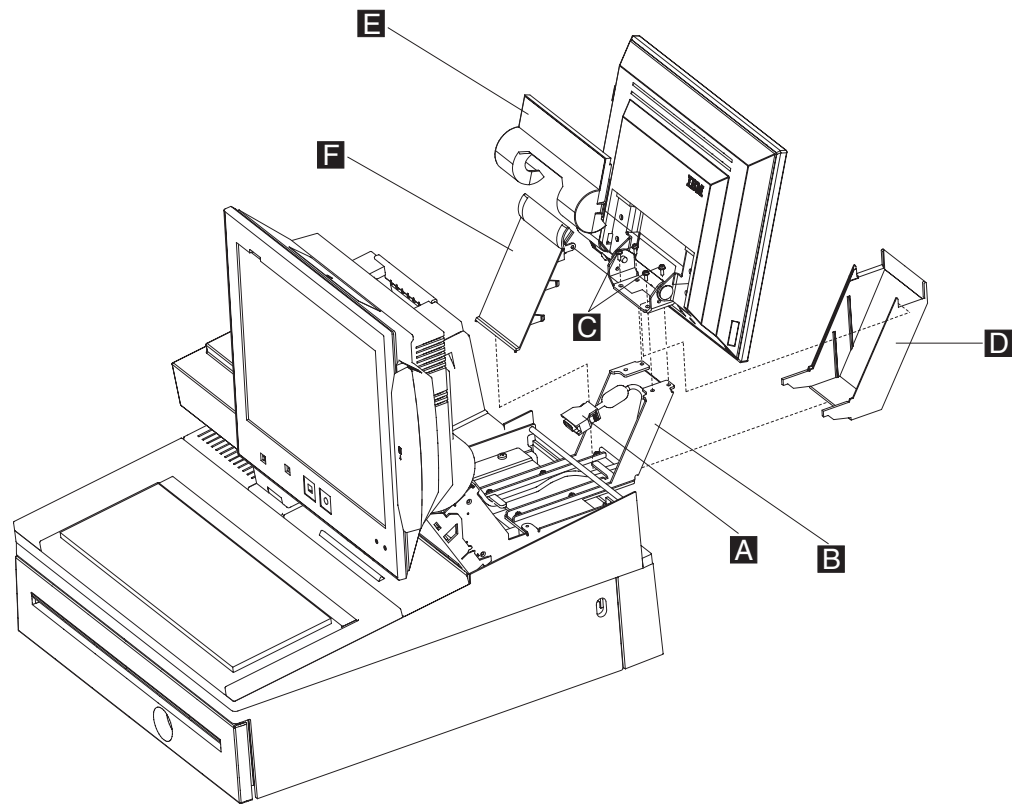

Figure 47. Removing the 4820 SurePoint Solution display cable and covers
- a. Remove the 4820 filler panels in the following order (**E**, **D**, and **F**), as show in Figure 47.